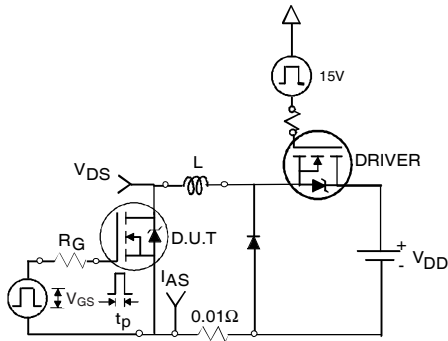

Fig 12a. Unclamped Inductive Test Circuit
- ③ Pulse width $\leq 1.0\text{ms}$; duty cycle $\leq 2\%$.
- ④ $C_{oss\ eff.}$ is a fixed capacitance that gives the same charging time as C_{oss} while V_{DS} is rising from 0 to 80% V_{DSS} .
- ⑤ Limited by T_{Jmax} , see Fig.12a, 12b, 15, 16 for typical repetitive avalanche performance.
- ⑥ This value determined from sample failure population. 100% tested to this value in production.
- ⑦ This is applied to D²Pak, when mounted on 1" square PCB (FR-4 or G-10 Material). For recommended footprint and soldering techniques refer to application note #AN-994.
3. Equation below based on circuit and waveforms shown in Figures 12a, 12b.